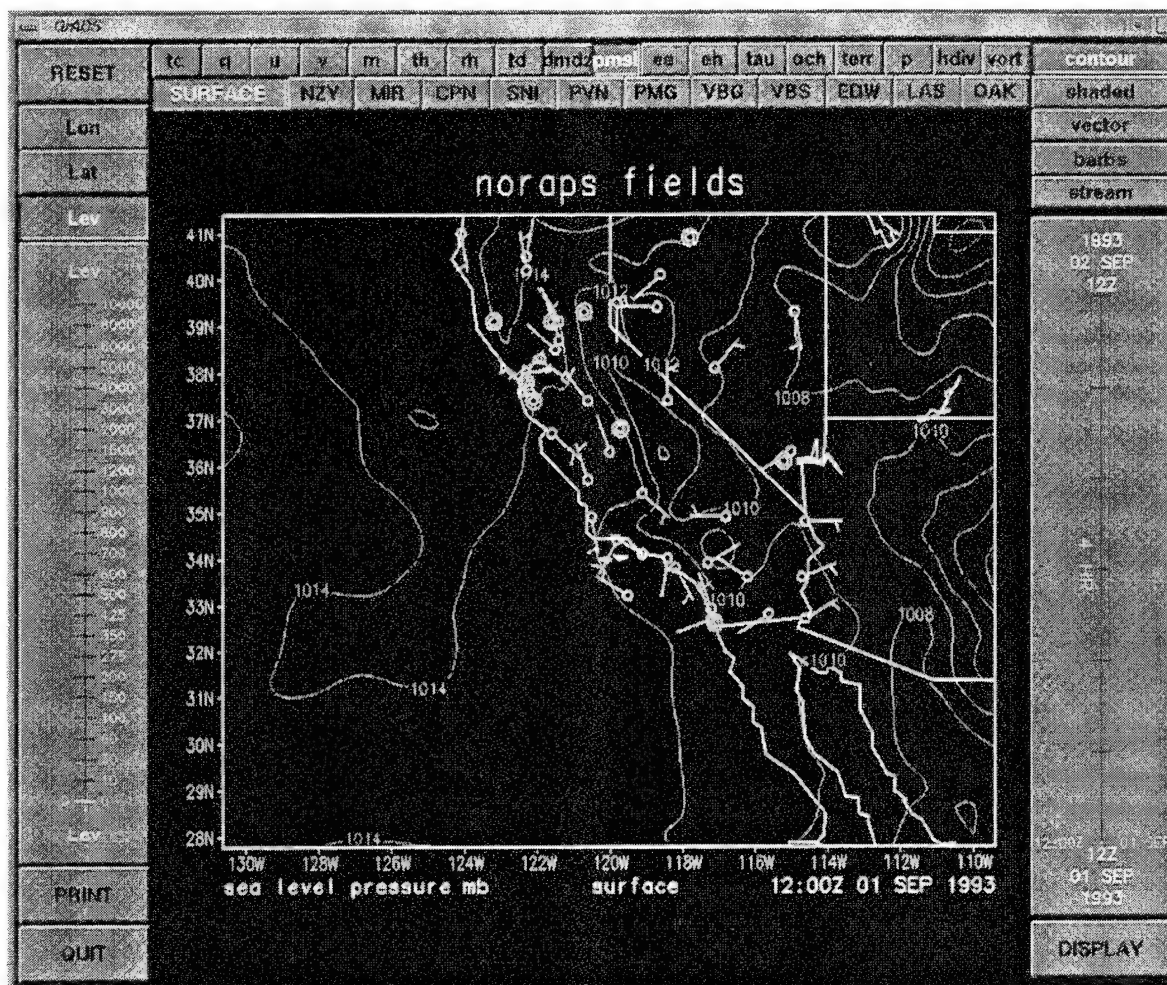

Figure 10. Display for surface station selection.
6.3 Surface Station Selection. Surface stations can be selected only from a fixed X-Y map display, without any animation in Z or T because the selection and animation processes are incompatible. The X-Y map display (Fig. 10) of any variable will be overlaid with surface wind barbs for all available surface stations. When station markers are visible, individual stations can be selected by clicking on the desired station's marker using the middle mouse button. The station will be highlighted and its 3-character nomenclature will be displayed to its upper right. Repeated clicking on a station with the middle mouse will toggle its selection on and off.